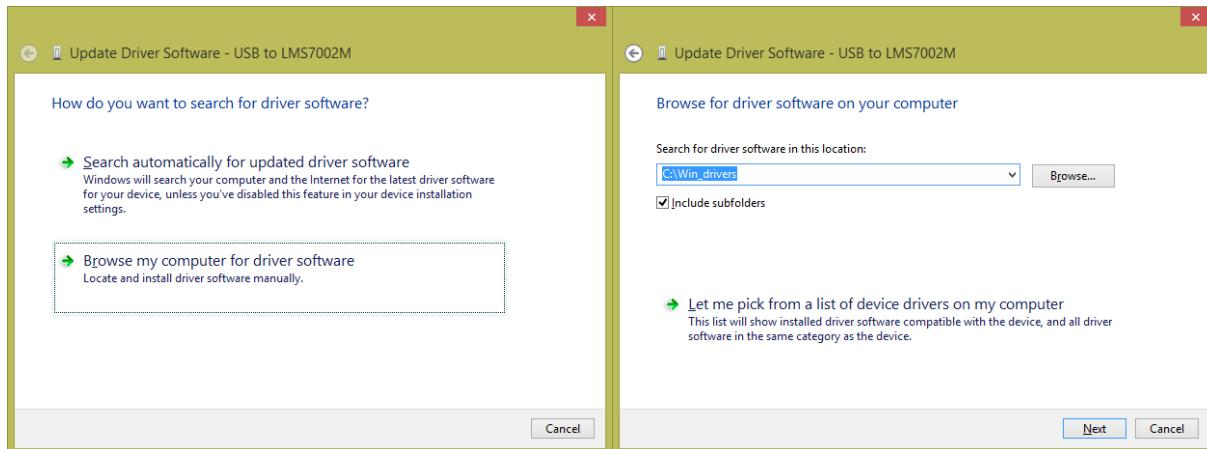

Figure 5 Update Driver Wizard.
5. Select **Browse my computer for driver software**, locate the driver provided with EVB7 board and press **Next** *Figure 5*